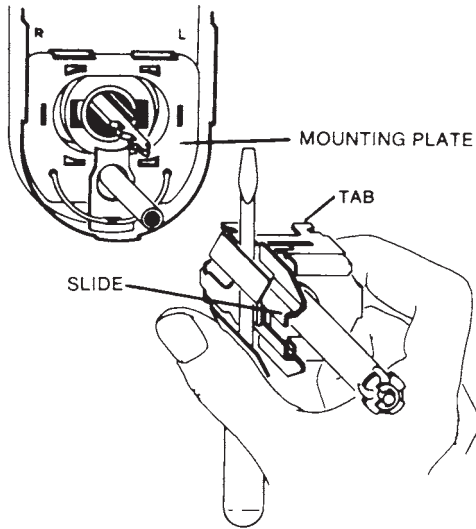

Figure 13.99 Right-hand conversion, Step 7.
7. Rotate the slide assembly 180°. With the slide compressed, insert the lugs into slots on the mounting plate (Fig. 13.99).